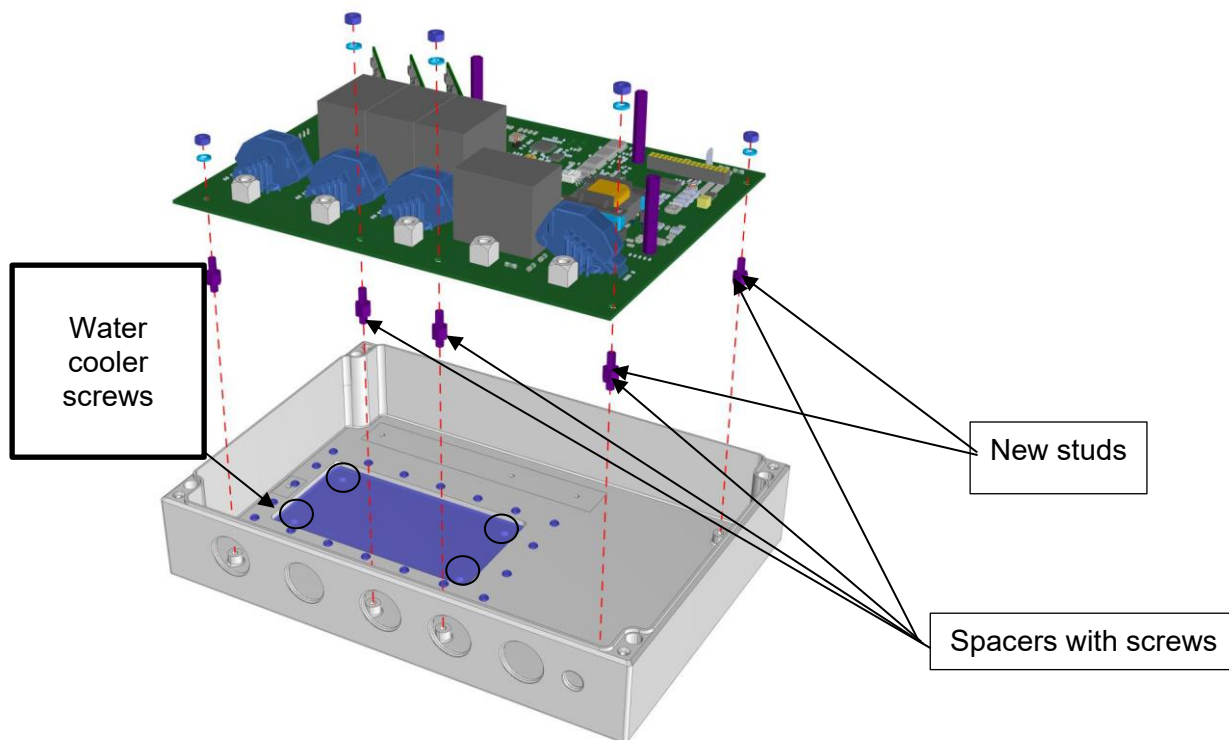

Fig. 3: SOLO housing with studs
- If a SOLO housing is installed, replace 2 studs between the controller board and the controller housing, refer to Fig. 3